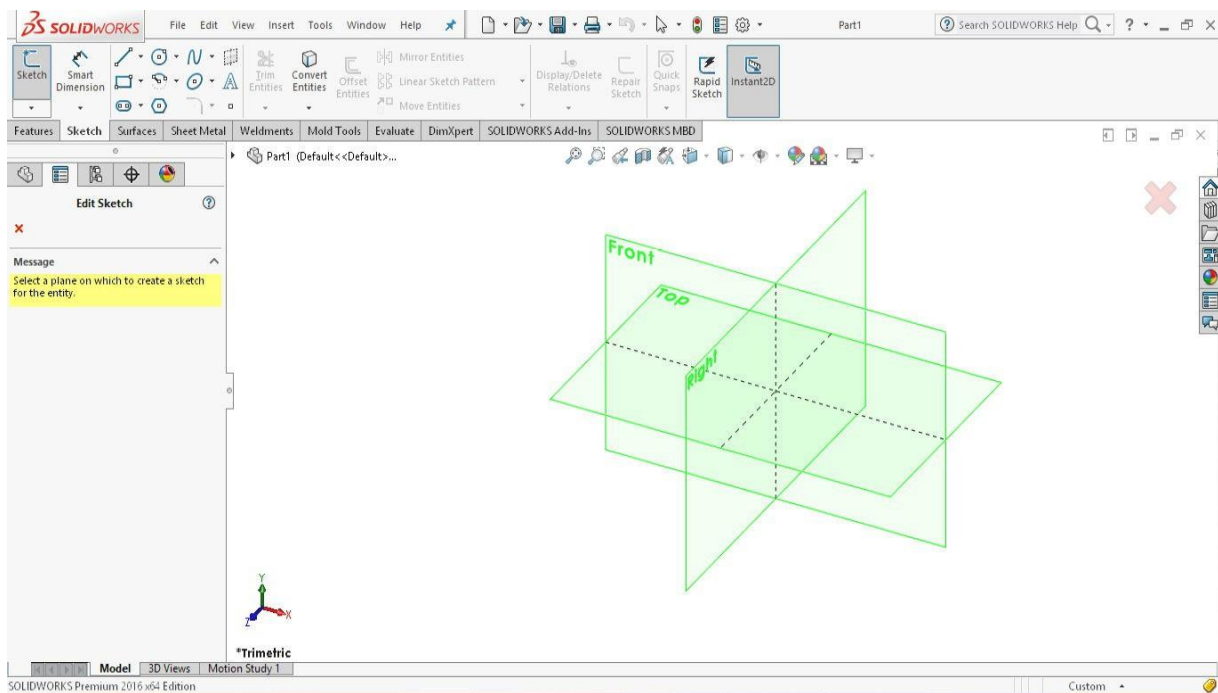

Figure 2-12 The three default planes displayed on the interface
4. Choose the **Sketch** button from the **Sketch CommandManager**; the **Edit Sketch PropertyManager** is displayed on the left in the graphic area and you are prompted to select the sketching plane on which the sketch is to be created. Also, the three default planes (**Front Plane**, **Right Plane**, and **Top Plane**) are available in SOLIDWORKS, and are temporarily displayed on the screen, as shown in Figure 2-12.